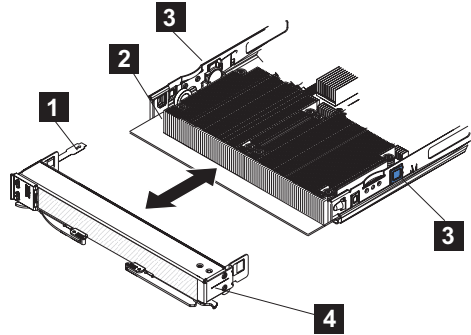

Figure 19. Removing the bezel assembly
5. Press the bezel-assembly release (as shown by **3** in Figure 19) on each side of the blade server and pull the bezel assembly (**4**) away from the blade server approximately 1.2 cm (0.5 inch).